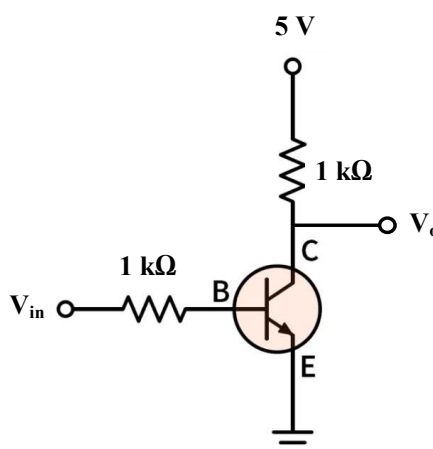

Fig. 7.2. Circuit diagram for implementing BJT as a switch.
1. Connect the circuit according to Fig. 7.2.